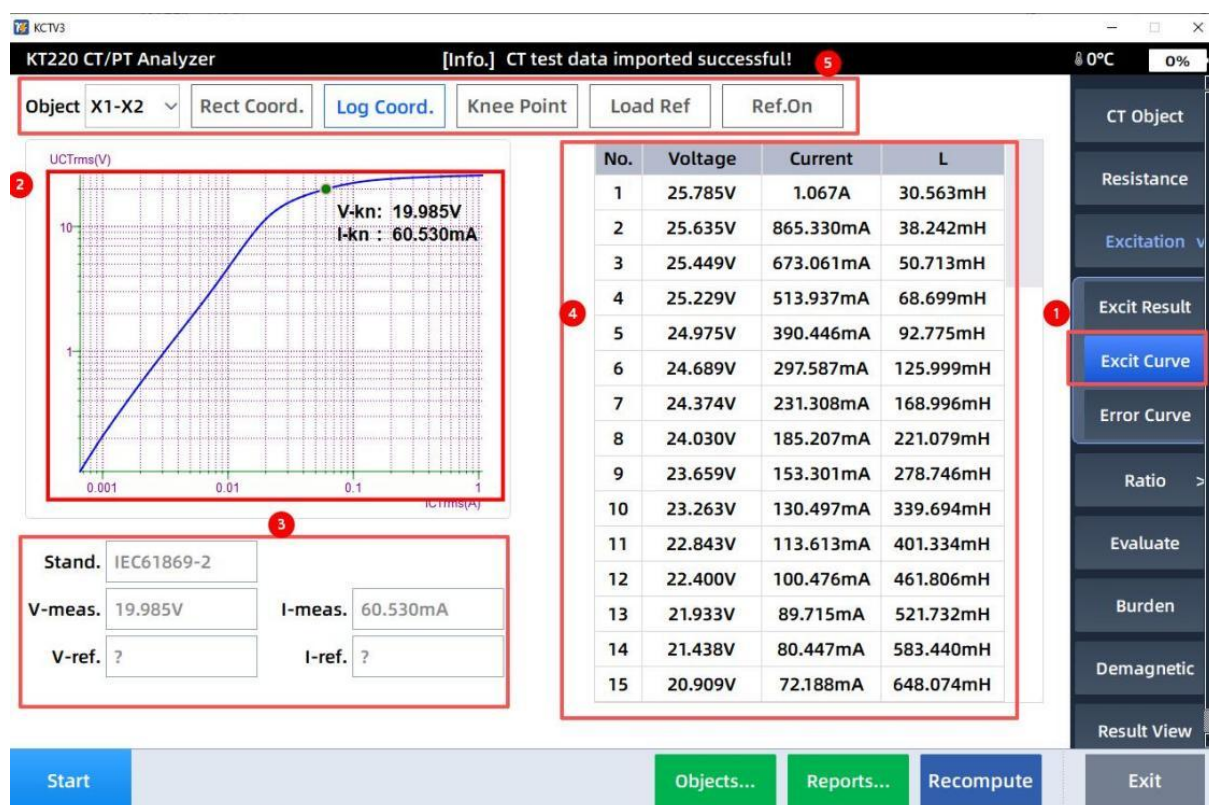

Figure 6-4 Excitation Curve Interface
1. Select Excitation Curve to display the excitation curve interface, as shown in Figure 6-4.